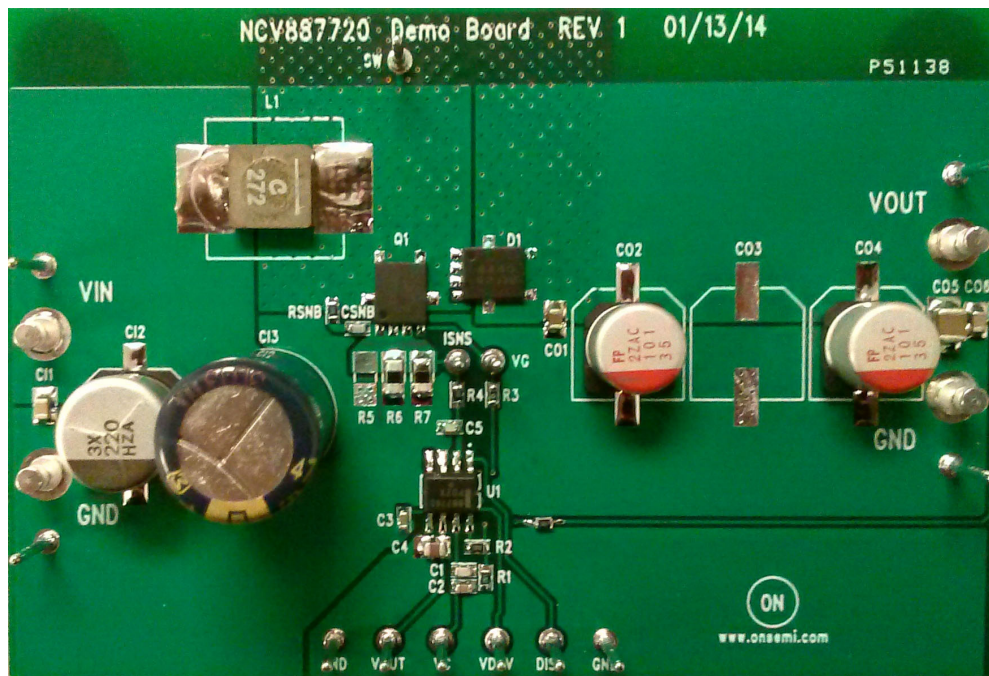

Figure 1. NCV887720 Start-Stop Evaluation Board
1. Connect a DC source voltage (15 A capable) set to a voltage of 13 – 14 V as shown in Figure 1.
2. Connect the DISB TTL control signal as shown in Figure 1. The initial DISB state should be set to logic -‘0’.